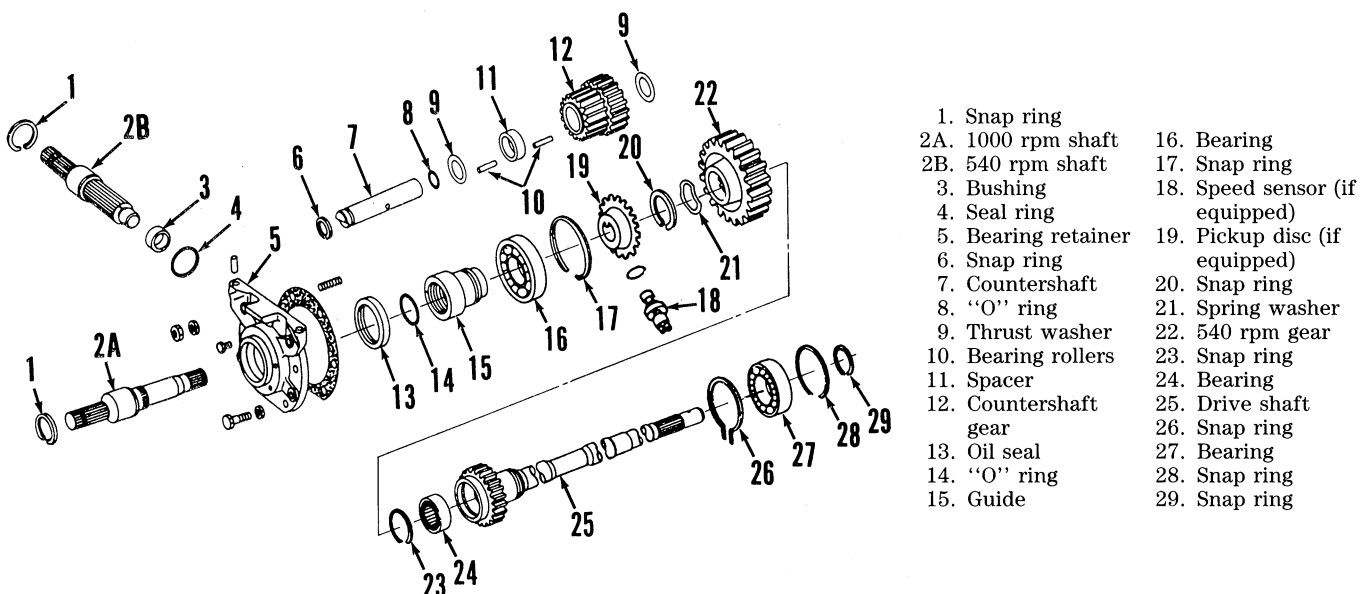
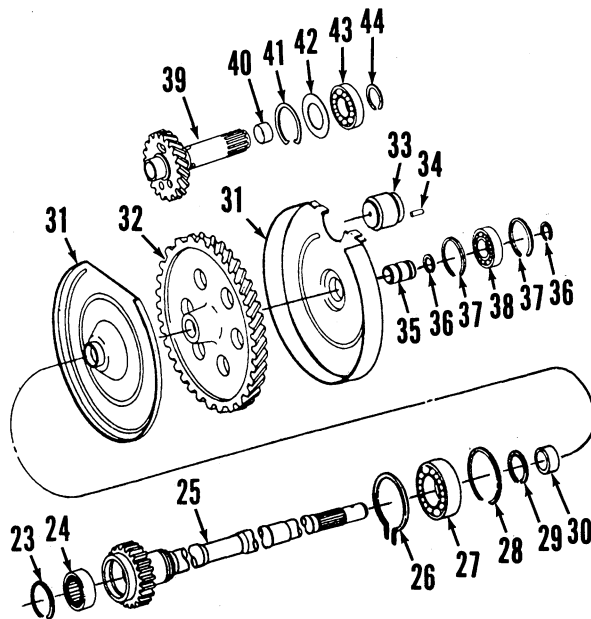

Fig. 206—Exploded view of reduction gears, output shafts and related parts used on all models equipped with dual-speed pto.
Fig. 207—Exploded view of pto front section drive gears and associated parts used on 4050, 4250 and 4450 Quad-Range models not equipped with MFWD.
186. The dual-speed pto drive train used on these tractors consists of a main drive gear (39—Fig. 207), pto shaft drive gear (32), pto drive shaft with gear (25), countershaft gear (12—Fig. 206), 540 rpm gear (22) and output shaft (2A or 2B). The 1000 rpm shaft (2A) goes through the 540 rpm gear and splines directly into the main drive shaft (25). When 540 rpm is desired the 540 rpm shaft (2B) is inserted through bearing retainer and splines into the 540 rpm gear (22). The 540 rpm gear is driven by the countershaft gear (12) to provide the necessary speed reduction. The pto brake piston (33—Fig. 207) is applied against gear (32) when tractor is running but pto is disengaged.
187. OUTPUT SHAFT AND GEARS. To overhaul pto drive train at rear of tractor, first drain transmission oil. Unbolt and remove rear bearing retainer (5—Fig. 206) with stub shaft and 540 rpm gear (22). Be careful not to lose the spring washer (21). Squeeze large snap ring (26), then pull pto drive shaft (25) from transmission case. Countershaft gear (12) can be removed by pulling shaft (7) rearward from case
Remove snap ring (29—Fig. 206) and use a suitable puller to remove drive shaft bearing (27) if necessary. Remove snap ring (1) and withdraw output shaft from bearing retainer (5). Remove speed sensor pickup disc (19) if so equipped. Remove snap ring (17) and press guide (15) and bearing (16) from retainer. Drive oil seal (13) out of retainer.
NOTE: If the large drive gear (32—Fig. 207) slipped off the sleeve (35) during disassembly, it can be properly relocated by removing the clutch pressure regulating valve housing from left side of clutch housing and repositioning the gear on the sleeve.
188. MAIN DRIVE GEARS. To remove main drive gear (39—Fig. 207) and pto shaft drive gear (32), tractor must be split between engine and clutch housing as outlined in paragraph 100. Main drive gear and brake piston (33) are contained in the clutch operating piston housing. Refer to paragraph 103 for overhaul procedure.